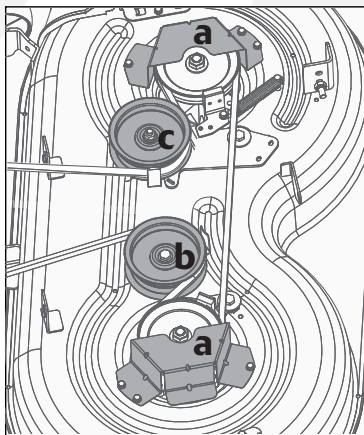

Fig. 29
2. Remove the two belt protective covers (a, Fig. 29) by removing the six screws that fasten them to the deck.
3. Remove the fixed pulley (b, Fig. 29) and tension pulley (c, Fig. 29).